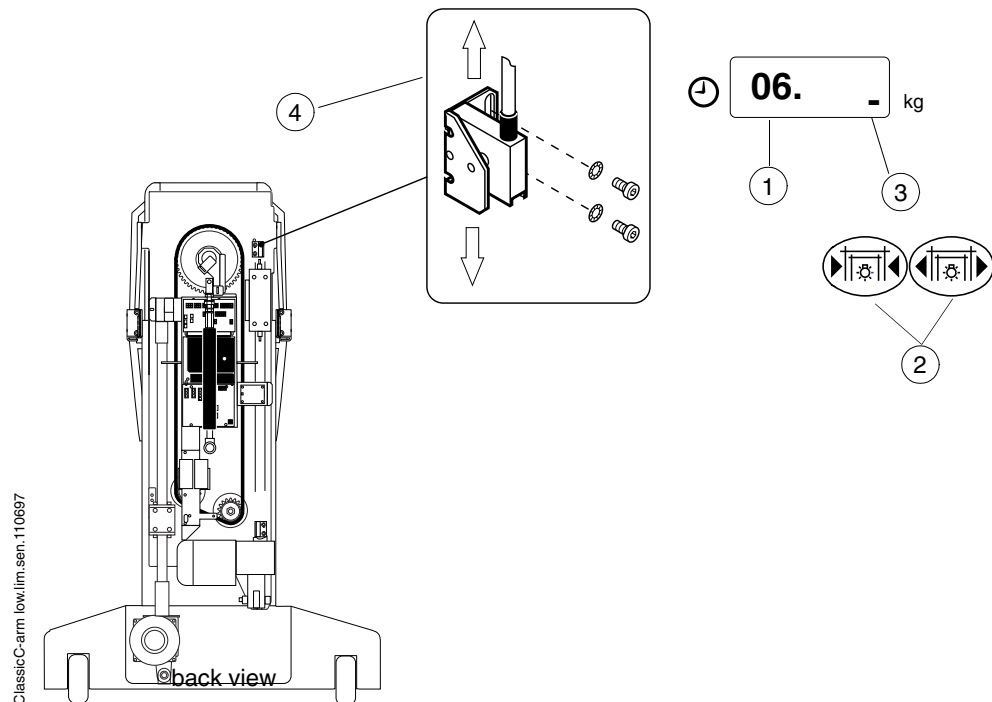

Figure F.30
- c) Enter the service mode and select the display of internal signals mode 06, see “SERVICE MODE FUNCTIONS SHORT-FORM” on page C-4. (Fig. F.30, 1).
- a) Drive the C-arm to the transportation position with field/light keys (Fig. F.30, 2). Check that the right lower signal on the display (Fig. F.30, 3) lights when the C-arm reaches the vertical position.
- b) The C-arm is must be slightly over  $180^\circ$  position before the right lower signal lights, adjust the position of the Rotation lower limit sensor (Fig. F.30, 4) if needed. Check the C-arm rotation and readjust, if needed.